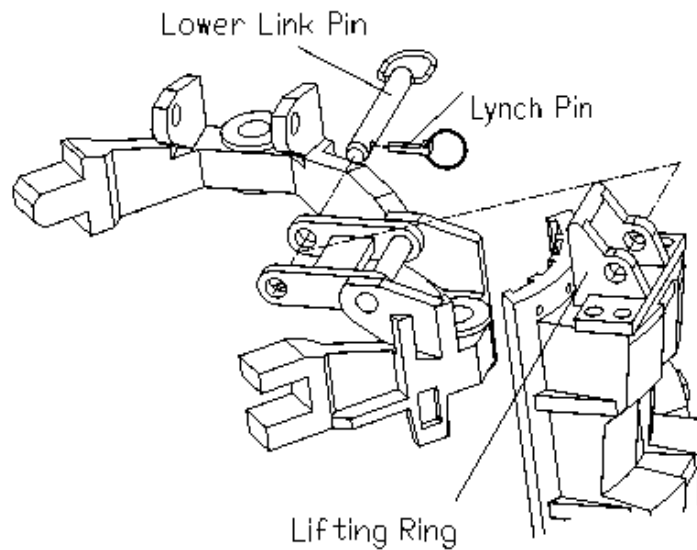

Figure 3-2
1. Removing Slip Segments-Figure 3-2